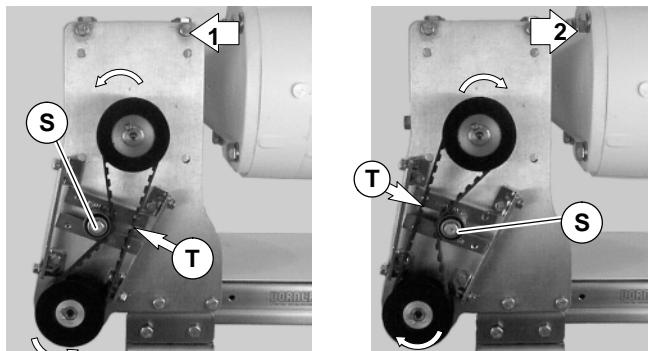

Figure 23
3. Depending on direction of conveyor belt travel (1 or 2 of Figure 23), position belt tensioner (S) as shown. Tension belt to obtain 1/8" (3 mm) deflection for 1.0 lb (456 grams) of force at belt mid-point (T). Tighten tensioner screw to 103 in-lb (12 Nm).